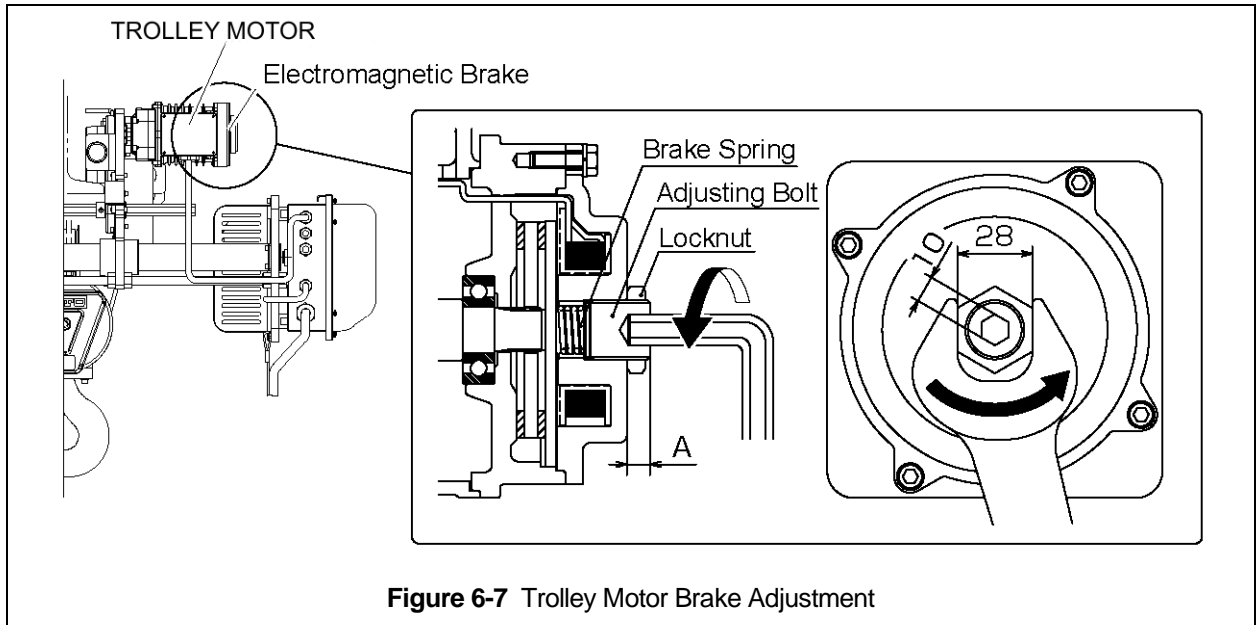

Figure 6-7 Trolley Motor Brake Adjustment
6.5.4 Motor Brake Check - See **Figure 6-7**.
- 2) The Trolley Motor Brake is factory set/adjusted for optimal brake force. The brake torque can be changed in accordance with brake wear. The brake torque can be changed by changing the projection amount (Dimension A) of the Adjusting Bolt on the back of the trolley motor. Using **Figure 6-7** and **Table 6-10** to adjust the trolley motor brake as needed.